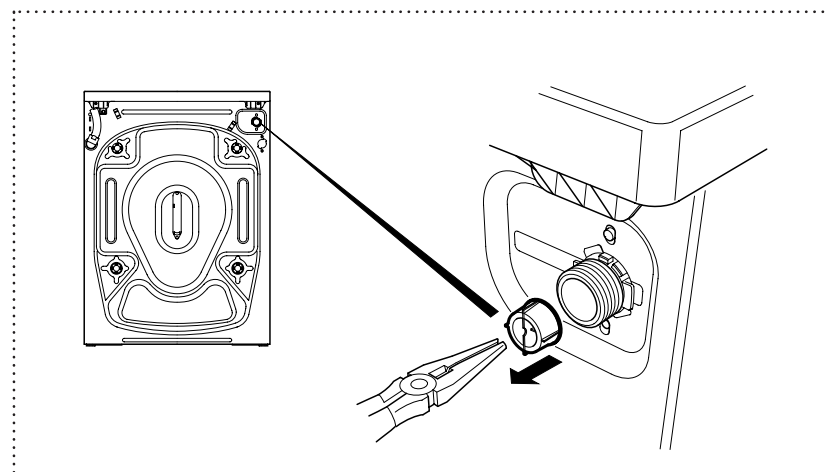

Figure 12
- 2 To remove the water inlet filter from the water inlet valve, use a pair of long-nosed pliers to gently pull on the plastic bar in the filter (fig 12).